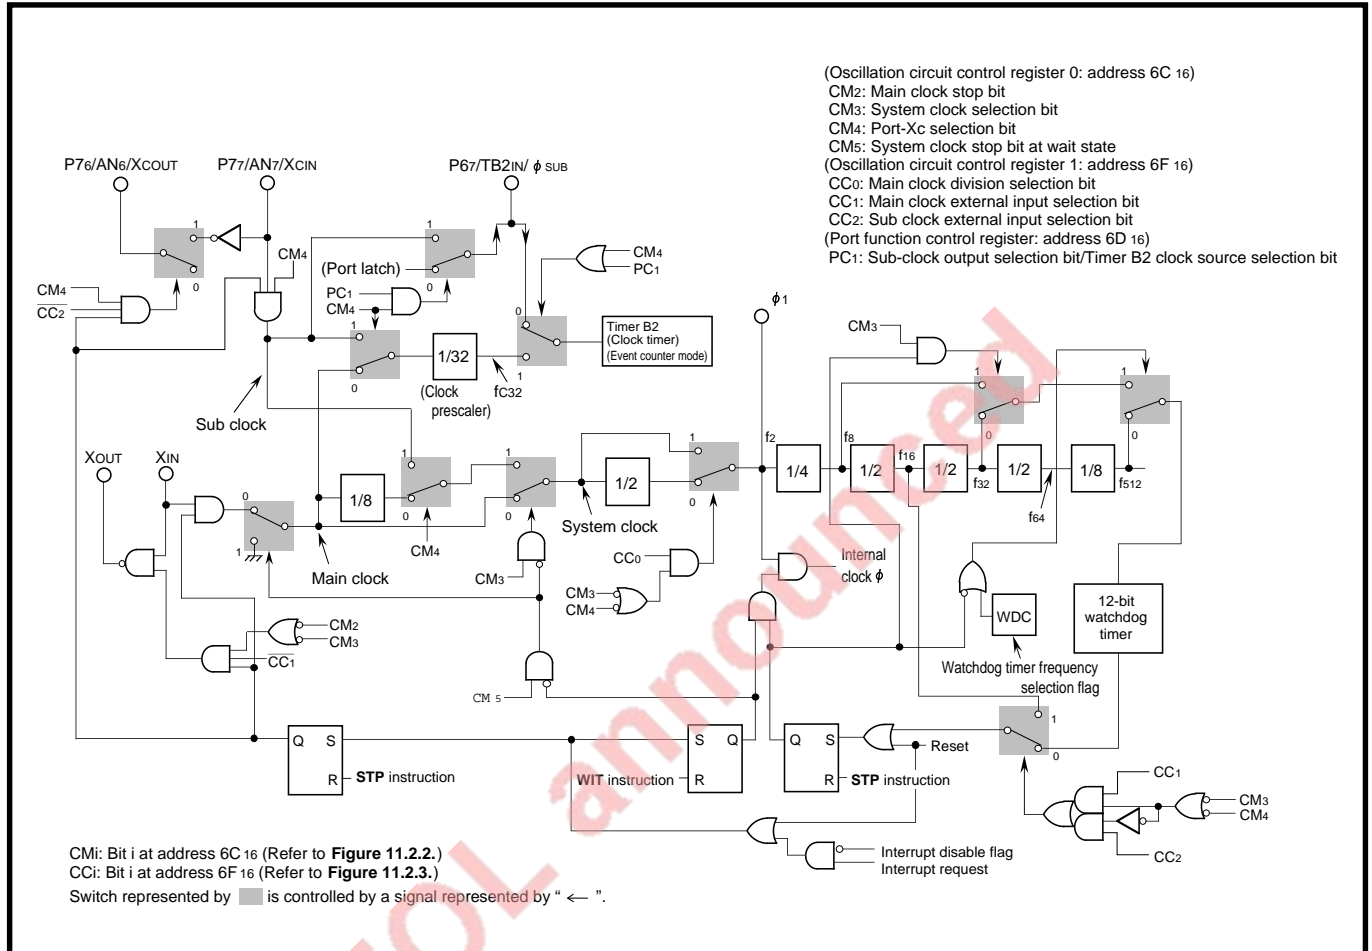
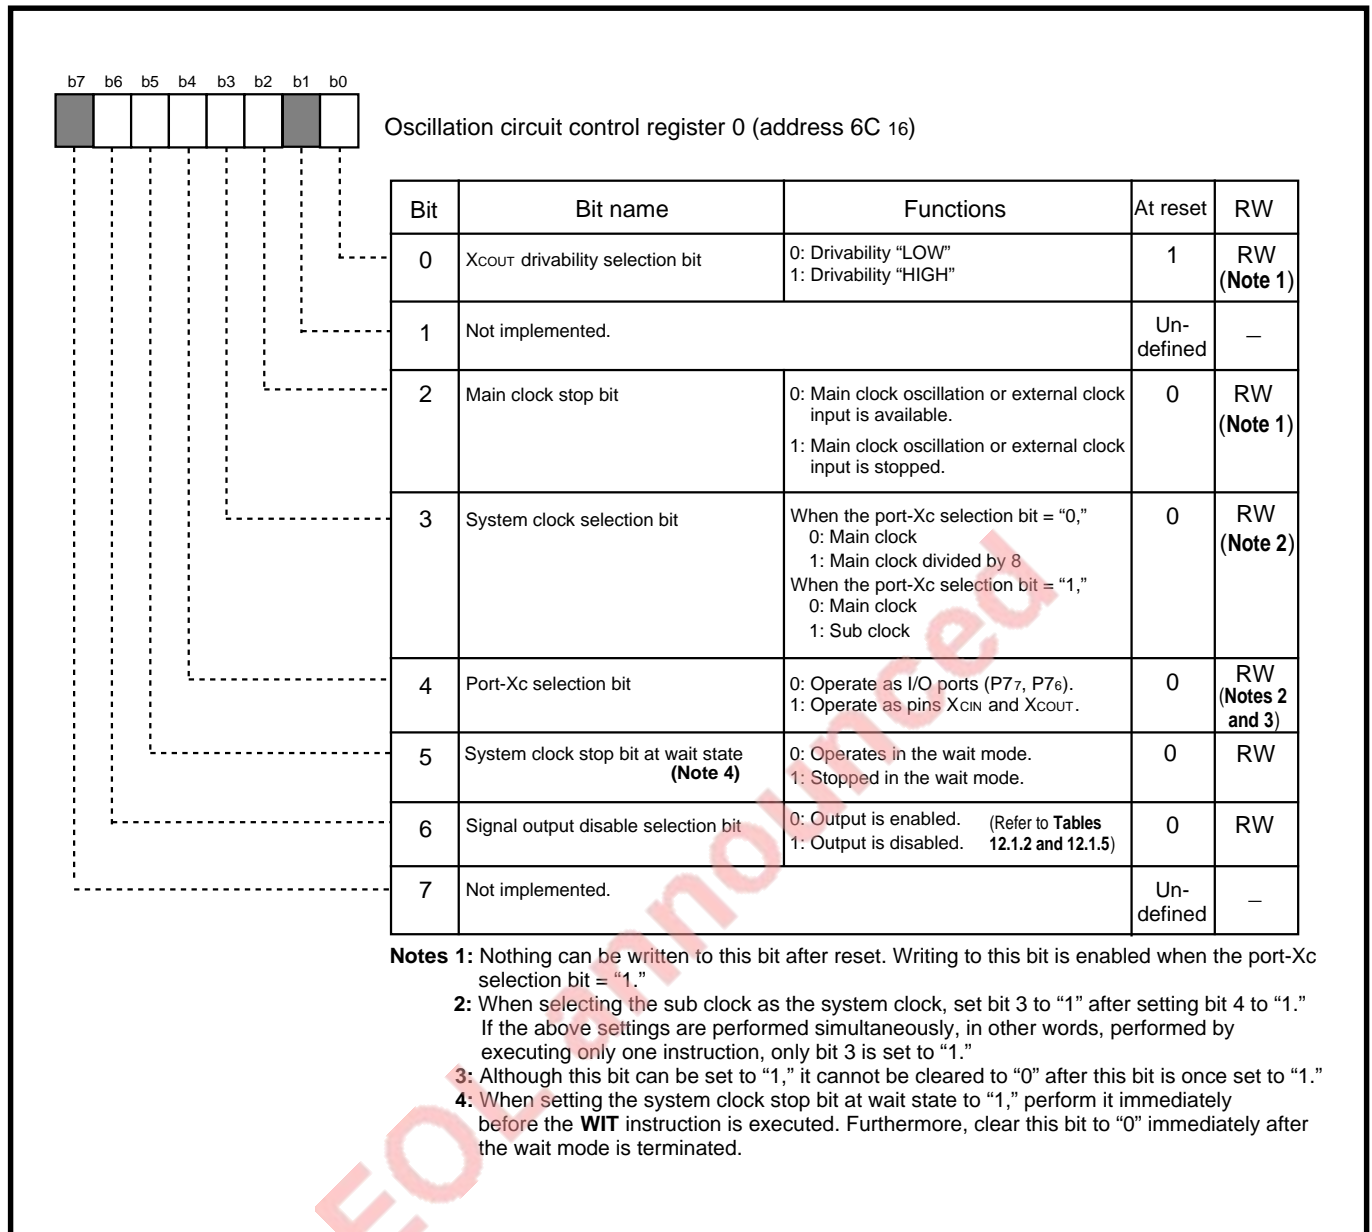

Fig. 11.2.1 Block diagram of clock generating circuit (with STP and WIT instructions)
Fig. 11.2.2 Structure of oscillation circuit control register 0
Clocks f2 to f512, clock ϕ ^{*2}: Refer to **Figure 11.2.1**.
Figure 11.2.1 shows the block diagram of the clock generating circuit (with the **STP** and **WIT** instructions). Figures 11.2.2 and 11.2.3 show the structures of the oscillation circuit control register 0 and oscillation circuit control register 1, respectively.
Clocks f_2 to f_{512}^{*1} , clock ϕ_1^{*2} : Refer to **Figure 11.2.1**.
- ① When an interrupt request occurs, an oscillator starts oscillating. Simultaneously, supply of clocks f_2 to f_{512} starts.
- ② By start of oscillation, the watchdog timer starts counting. The watchdog timer counts f_{32} when the system clock selection bit (bit 3 at address 6C16; Refer to **Figure 11.2.2.**) = “0” or f_8 when the system clock selection bit = “1.”
- ③ When the watchdog timer’s MSB becomes “0,” supply of internal clock ϕ starts. At the same time, the watchdog timer’s count source returns to a count source (clock f_{32} or f_{512}) which is selected by the watchdog timer frequency selection flag (bit 0 at address 6116).
- ④ The interrupt request which occurs in ① is accepted.